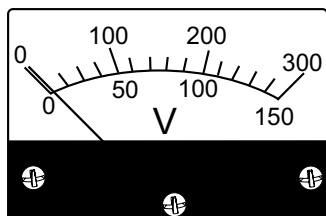

Figure 69. AC Voltmeter (Zero Volts)
7. Verify that the AC voltmeter (Figure 69) on the welder-generator reads zero volts.